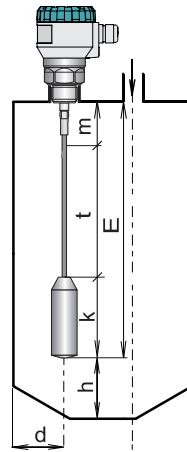

Fig. 16: Level meter installation with the rope electrode
- For installation of the level meter with rope electrode into deep tanks and silos the length of the electrode must be selected so that the weight will be below the minimum measured level, see Fig. 16.
- The distance the electrode from the tank wall must be at least 300 mm. Otherwise, the level meter install as far as possible from the walls, to the middle between the wall and the vertical inlet, see Fig. 16. It must be ensured that the rope electrode could not touch the vessel wall caused by the motion of the medium.